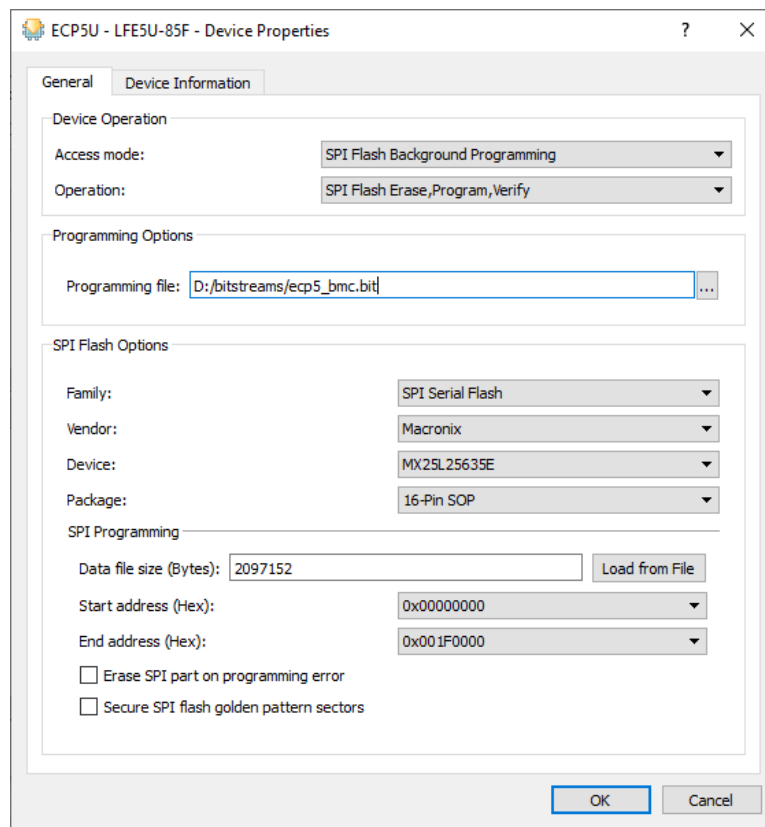

Figure 4.8. Device Operation
2. Configure operation for Device 3 as shown in Figure 4.8.